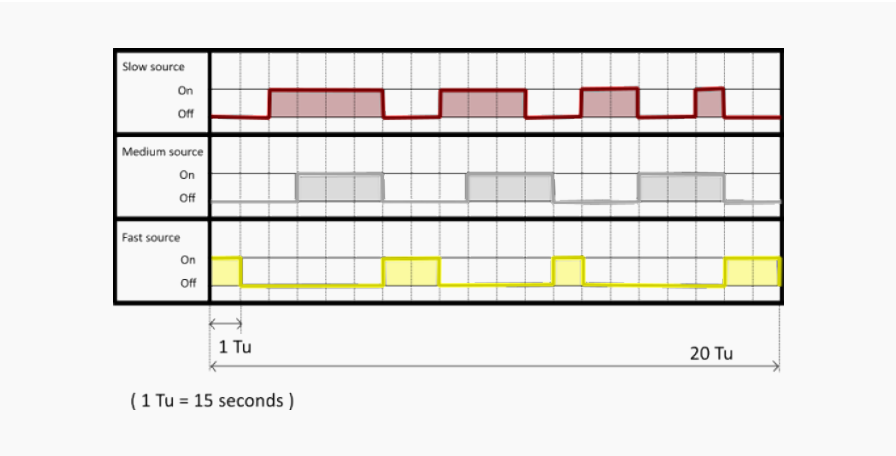

Figure 5
During the competition, the Energy Sources are activated and deactivated successively as in figure 5. Energy drains however, remain activated throughout.
- Triggering the charging station (On/Off according to the figure 5)